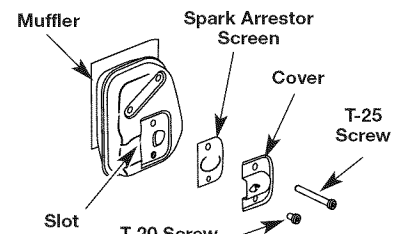

Fig. 34
- With a flat blade screwdriver or Torx T-20 bit and a T-25 bit, remove the screws attaching the spark arrestor cover to the muffler (Fig. 34).